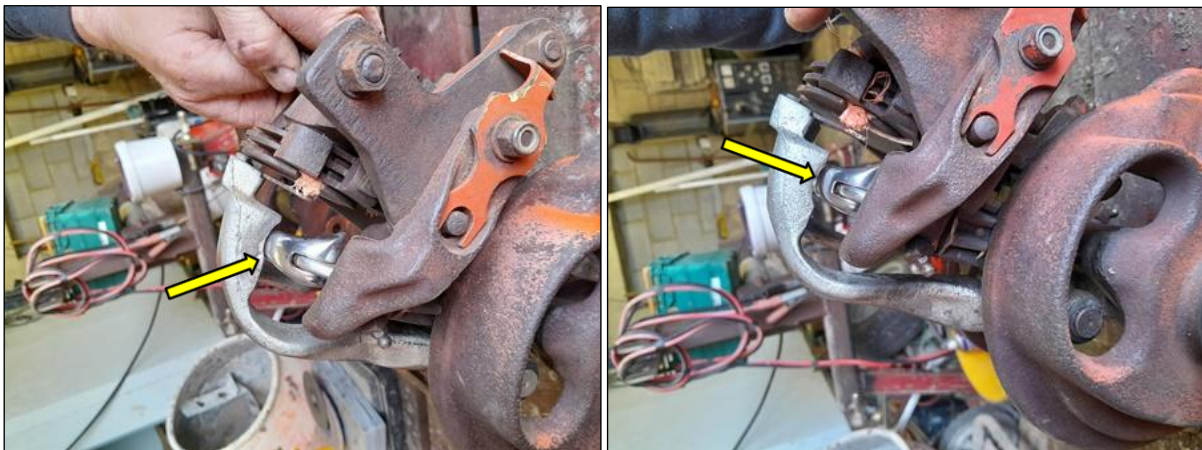

Fig.5.21 The Stripper Arm should rub lightly across the Bill Hook's heel (left - arrowed)
- Does the Stripper Arm rub lightly across the Bill Hook's heel? (*Fig.5.21*)